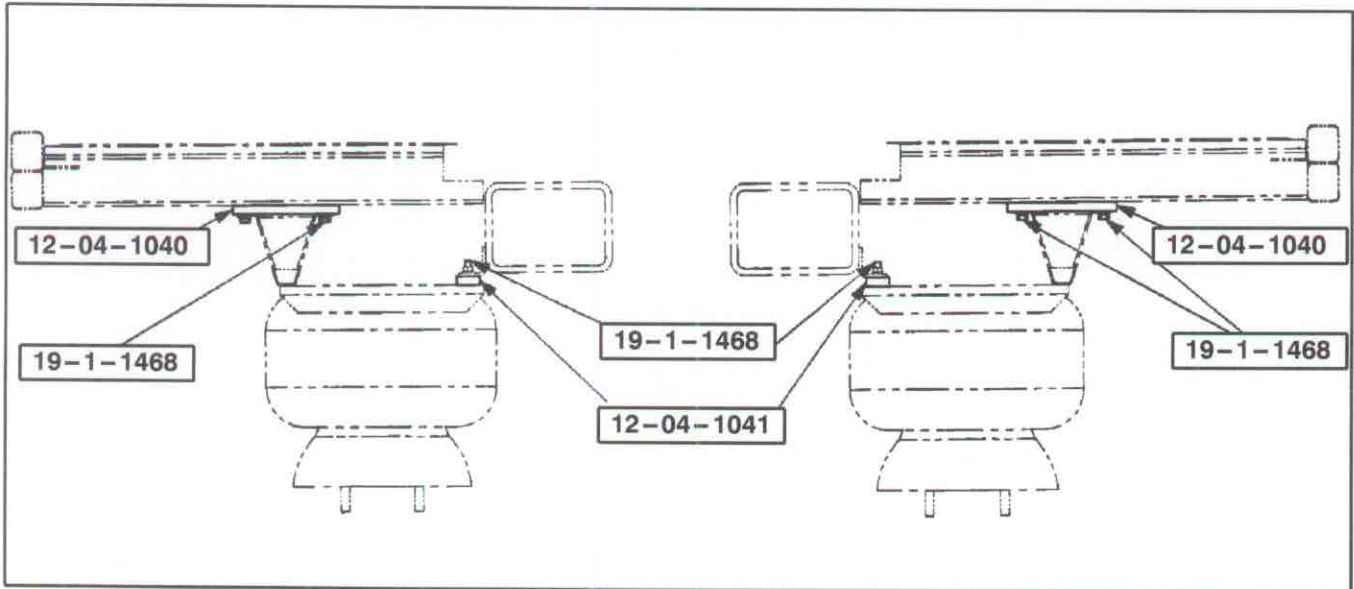

Figure 4. Tag axle suspension (partial front view).
- 6. Install spacers (p/n 12-04-1040 and 12-04-1041) in the two locations shown in Figure 4., using the new plate assembly mounting hardware provided in the Parts list. Torque nut (p/n 19-3-314) to 11 ft.-lbs.